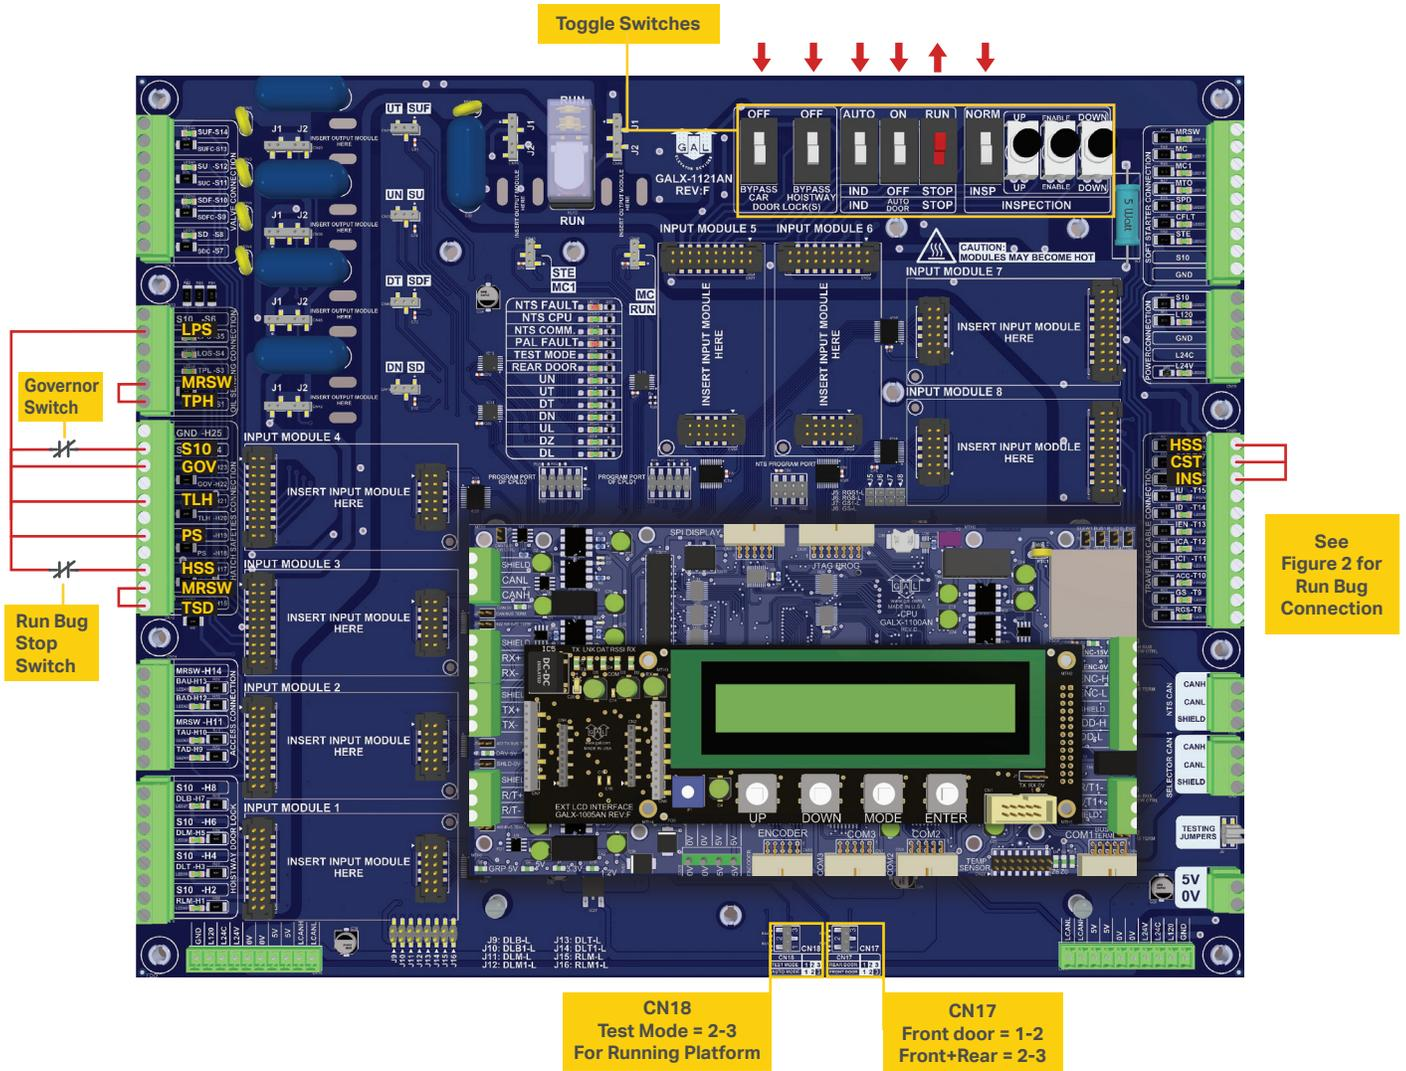

Figure 3: GALX-1121AN Main I/O Board
- 3 Set the toggles switches on the Main I/O Board as shown in **Figure 3**.
- 4 Place CN18 on pins 2 and 3, in the temporary "Test Mode" configuration, on the GALX-1121 Main I/O Board, as shown in **Figure 3**.